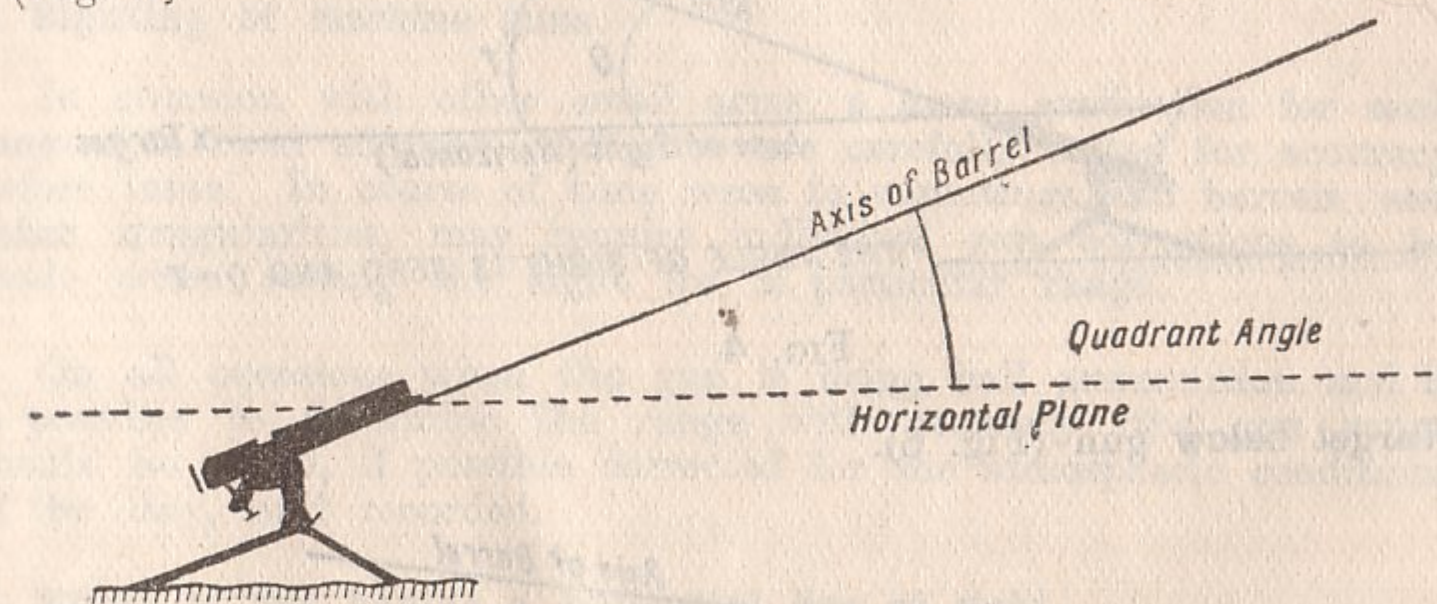

FIG. 2.
2. When firing indirect, elevation or depression is placed on the gun by means of the clinometer, an instrument which measures angles with reference to the horizontal. It is necessary, therefore, to be able to express the angle of elevation given to a gun in relation to the horizontal. This angle is known as the quadrant angle, and is angle between the axis of the barrel and the horizontal (Fig. 2).